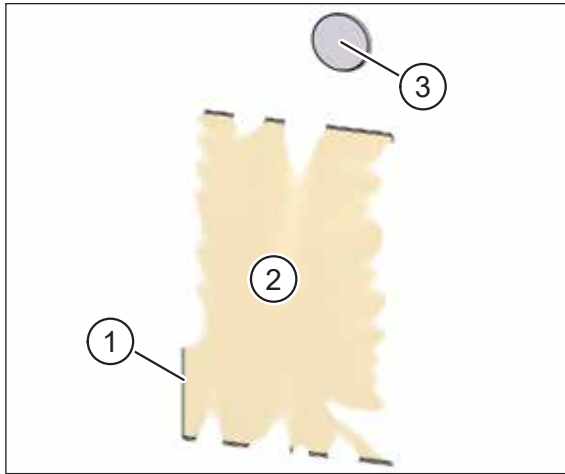

Fig. 39: Installation kit plastered on the inside
- ▶ Use a blade to score the plaster on the inside of the plastering trim (item 1 in Fig. 39).
- ▶ Carefully remove the plaster cover (item 2 Fig. 39) and the protective cover lying underneath.
- ▶ Use a blade to score the plaster on the inside of the supply air and extract air openings (item 3 in Fig. 39) and remove the adhesive tape with the plaster.